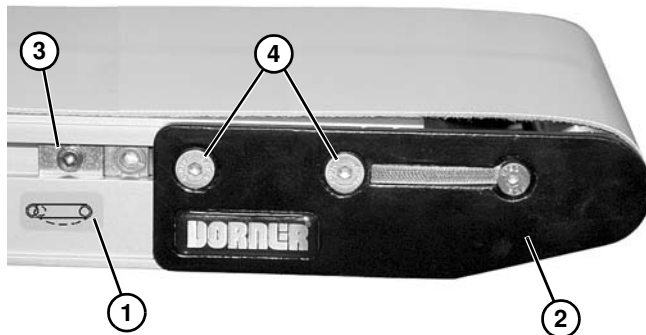

Figure 27
2. On tension end of the conveyor, identified with  a label (**Figure 27, item 1**), push in headplate assembly (**Figure 27, item 2**):
- a. On both sides of conveyor, loosen and move cam tracking assemblies (**Figure 27, item 3**) (if equipped) away from headplates.
- b. Loosen fastening screws (**Figure 27, item 4**) and push headplate assembly inward.